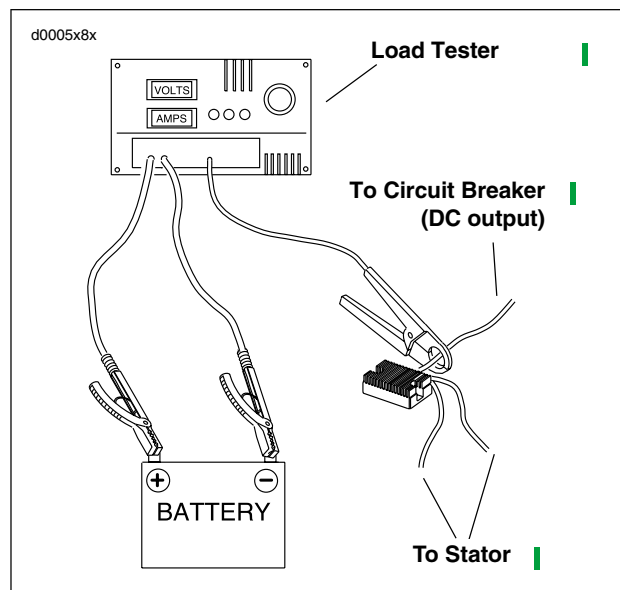

Figure 7-40. Current and Voltage Output Test
1. See Figure 7-40. Connect load tester.
1. See Figure 7-40. After removing the load, read the load tester voltage meter.